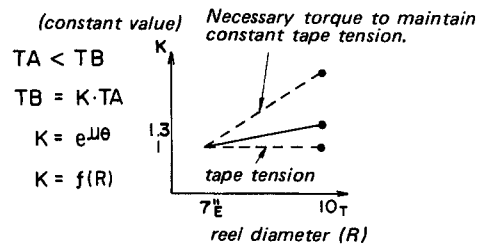

Fig. 9
2. The relationship between the tension value (TA) at the entry point of the tension arm and the back tension (TB) is as shown in Fig. 9. Thus from the end of a 7-inch reel tape to the start of a 10-inch reel tape the mechanical tension will be about 1.3 (experimental value) times the variation that occurs.